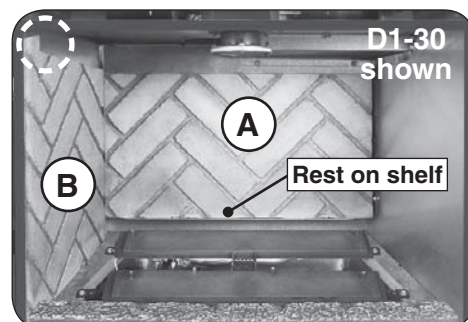

Fig. 31-5 Place rear panel, left panel
6. Place the rear panel at the rear of the unit. It will rest on the shelf found on the lower rear of the unit. See Fig. 31-5, "A".
7. Place the left panel on the left side of the unit. Ensure it completely rests inside of the front lip of the unit. See Fig. 31-5, "B".